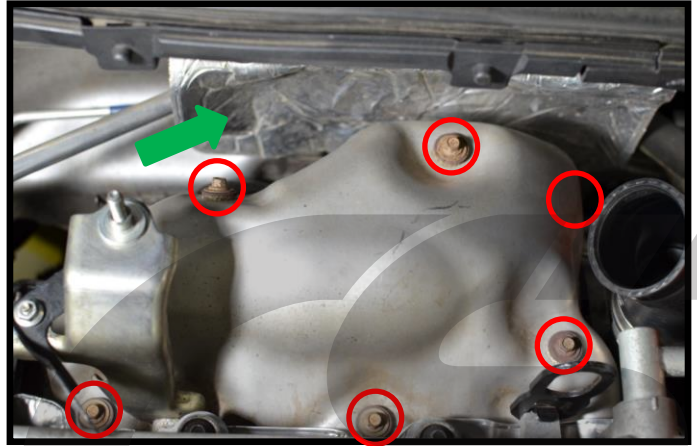

Figure 5a
- a) Remove thin silver firewall heat shield shown with the green arrow in Figure 5a. There are three plastic clips that unscrew.
- b) Remove the six 8mm bolts circled in red in Figure 5a, then remove the heat shield.